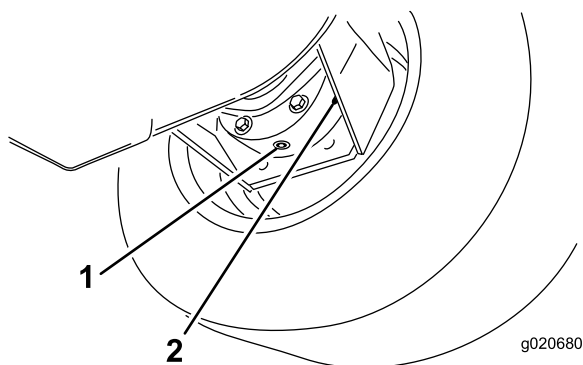

Figure 105
- Place a drain pan under the brake housing, remove the drain plug, and allow the oil to drain (Figure 105).